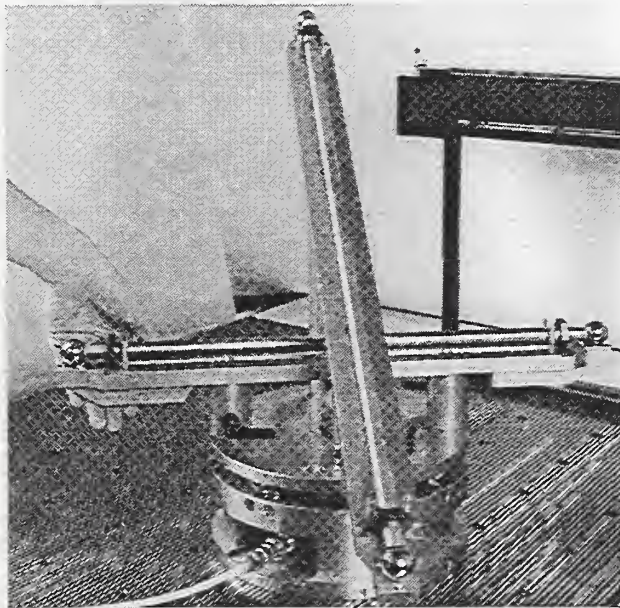

Figure 11. Rotating the ball bar support structure to a new position
- b. Gently rotate the ball bar support structure to a new position. Refer to Figure 11 below.